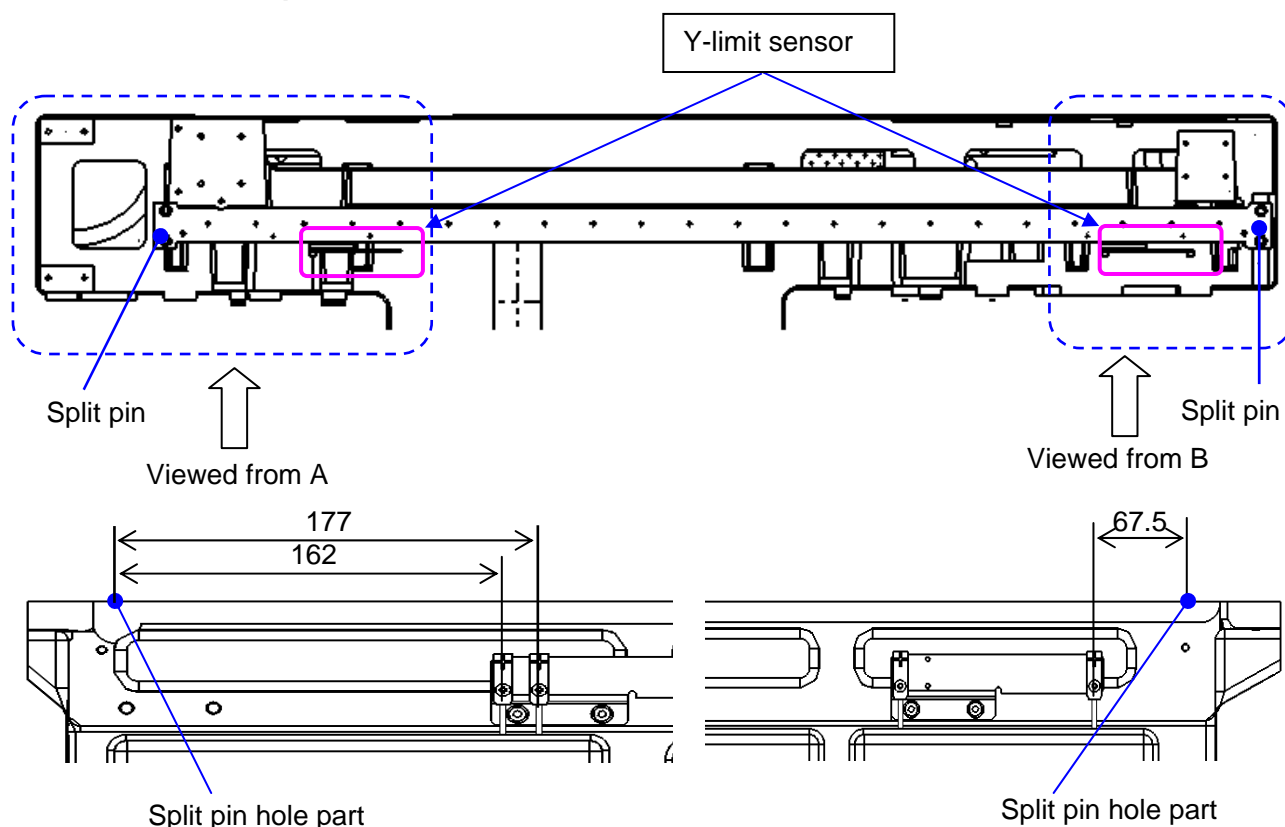

Figure 1-3-2-1 M and L Board Specifications
- 1) Loosen the screws fixing the Y-limit sensor bracket and make the adjustment so that the distances from the split pin mounting center position of the base frame are those shown in the Figure below. After the adjustment has been completed, tighten the screws firmly. (See Figure 1-3-2-1 (M and L board specifications) and Figure 1-3-2-2 (XL board specifications).)